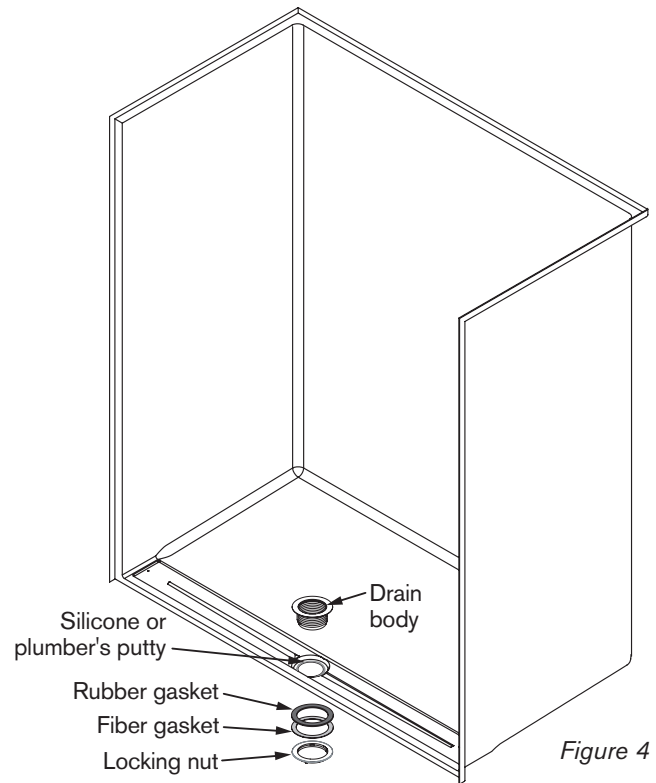

Figure 4
- 7** Apply silicone or plumber's putty around shower drain hole on the inside of shower only. (Figure 4)